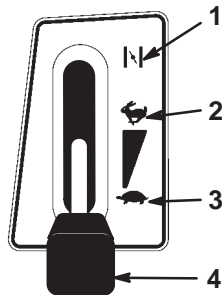

Figure 8
5. Shift the throttle lever to Choke (Fig. 8).
7. After the engine starts, slowly shift the throttle lever to Fast (Fig. 8). If the engine stalls or hesitates, shift the throttle lever back to Choke for a few seconds and then shift the throttle lever to Fast. Repeat this step as required.
1. Shift the throttle lever to Slow (Fig. 8).